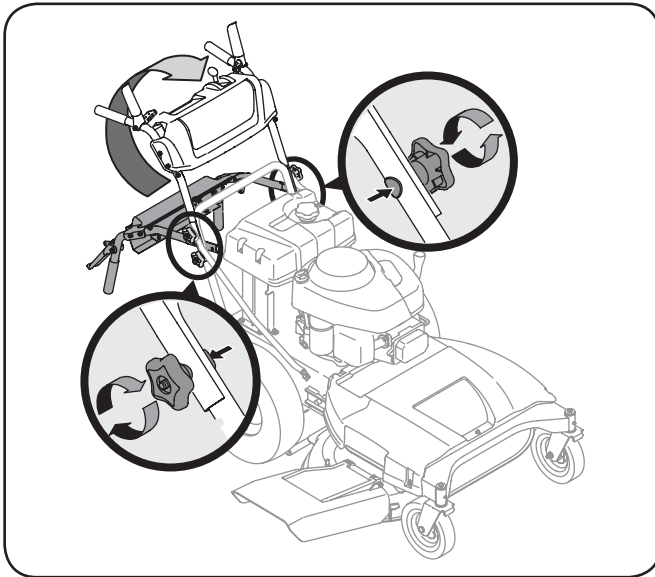

Figure 3-4
2. Pivot the upper handle into operating position. Be careful not to crimp cables. See Fig. 3-4.
4. Tighten the upper and lower star knobs and carriage screws to secure the upper handle to the lower handle. See Fig. 3-4.